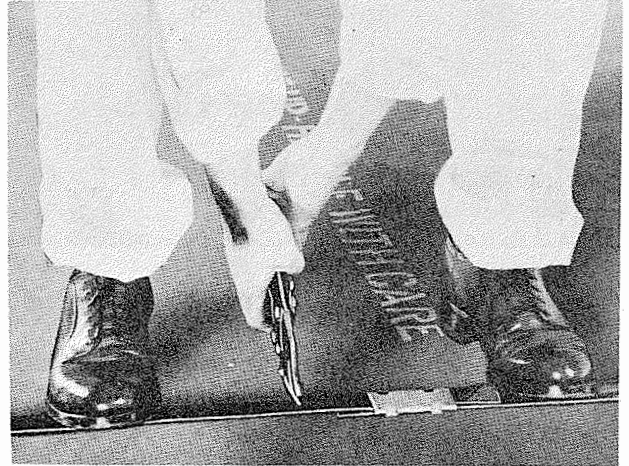

Figure 4-1. Cutting Shipping Box Steel Straps
a. Release the cover by standing on top of the shipping box and placing the feet on the metal straps on either side of the clip seals. Cut the straps close to the clips with a pair of tin snips. See figure 4-1.